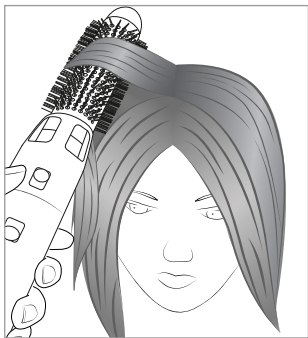

Fig. 7
- ▶ You can also achieve more fullness at the hairline by simply holding the round brush **11** for a few seconds just below the strand at the hairline (see Fig. 7).